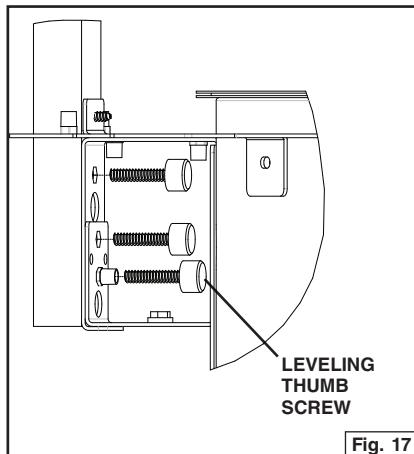

Fig. 17
11. Level the two units with the cook top surface using the leveling thumb screw. Fig. 17.